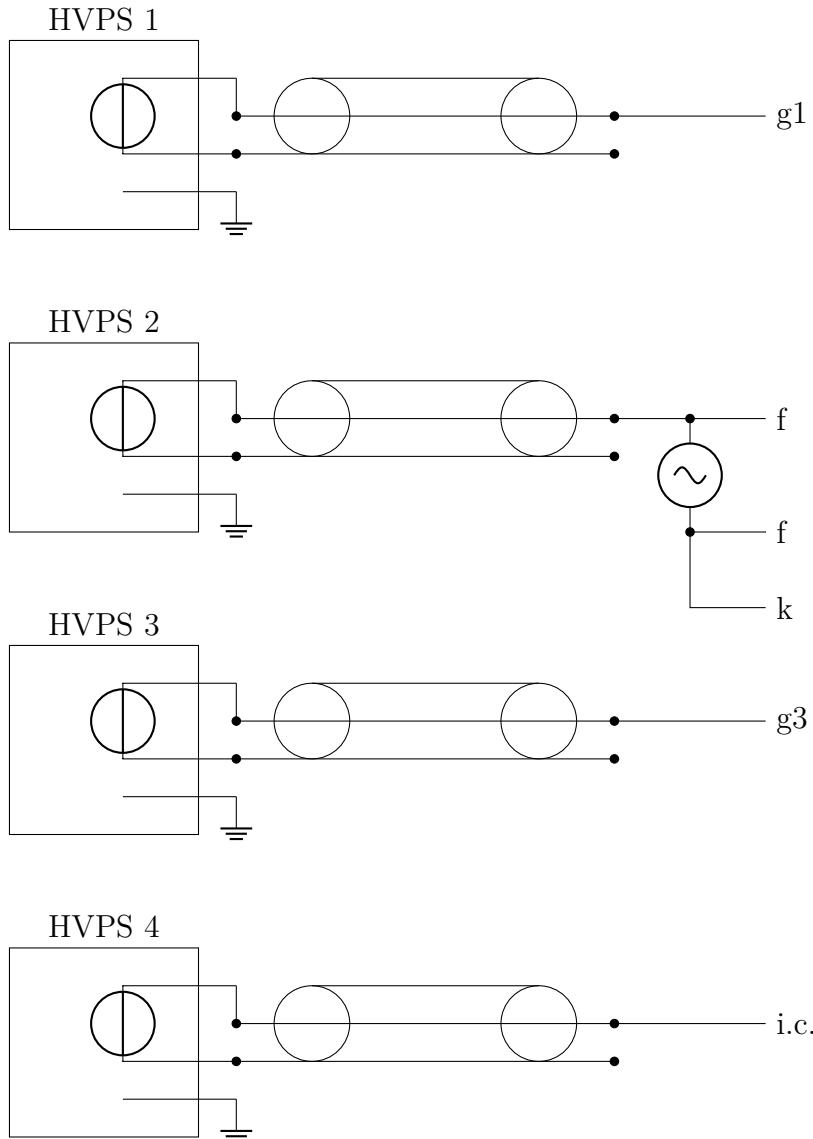

Figure 1.5: Schematics of supplying CRT pins with power.
- 1 A schematic of the supplied power is shown in fig. 1.5. A small ac or dc voltage